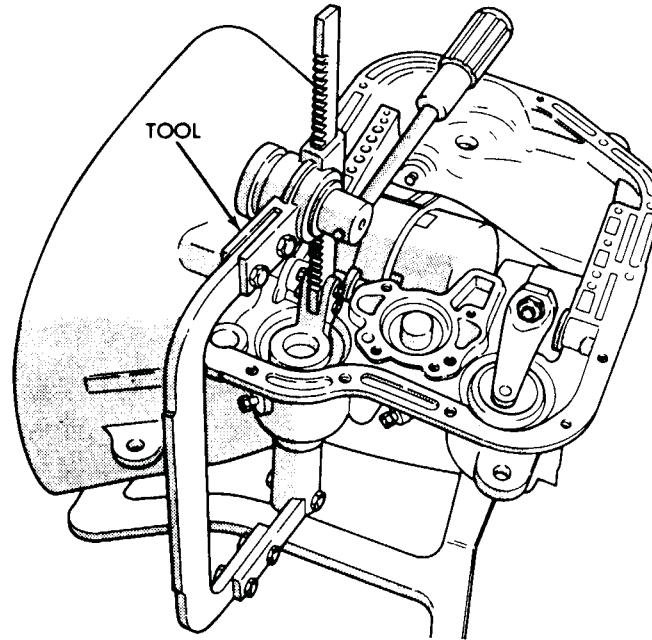

Fig. 7—Compress Kickdown Servo Spring
(1) Compress kickdown servo spring by using engine valve spring compressor Tool C-3422A, remove snap ring (Fig. 7).
(2) Remove rod guide, spring and piston assembly from the case. Be careful not to damage piston rod or guide during removal.
(3) Withdraw piston from the transmission case.